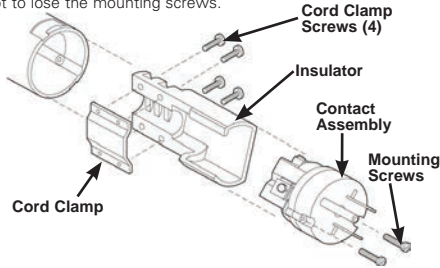

Figure 1
- Loosen two mounting screws (#4-40 x 5/8" long) in plug face but do not remove all the way to maintain captive feature. Remove contact assembly, insulator and cord strain relief clamp. Note orientation of insulator before complete removal. (See Figure 1.) Be careful not to lose the mounting screws.